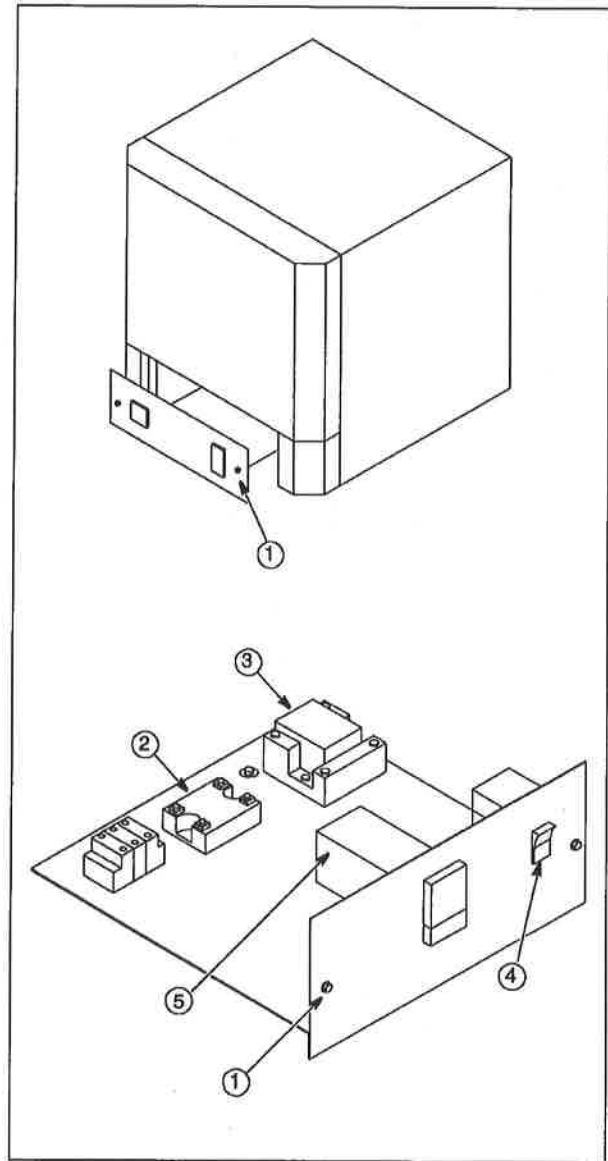

Figure 7. Solid State Relay Replacement
Refer to the Troubleshooting section for relay testing. If the solid-state relay is inoperable, complete the following steps to replace the relay (refer to Figure 7):
1. Remove the screws located on the left and right sides of the control panel (item #1 in Figure 7).
3. Locate the solid-state relay on the component tray (item #2 in Figure 7).
Refer to the Troubleshooting section for power relay testing. If the power relay is inoperable, complete the following steps to replace the relay (refer to Figure 7):
3. Locate the power relay on the component tray (item #3 in Figure 7).
To replace the entire controller, complete the following steps (refer to Figure 7):
1. Disconnect the main power and switch the circuit breaker (#4 in Figure 7) to the OFF position.
2. Remove the two sheet metal screws located on each side of the furnace near the lower front (#1 in Figure 7). Pull the control panel forward to access the controller (#5 in Figure 7).